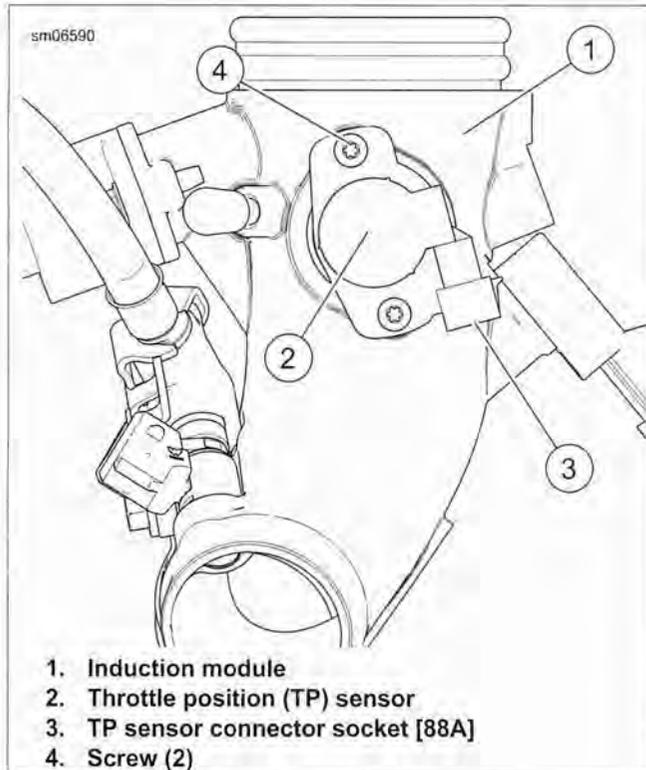

Figure 4-23. Throttle Position (TP) Sensor Removal: XR 1200X
4. See Figure 4-23. Remove induction module from vehicle. See 4.10 INDUCTION MODULE: XR 1200X.
5. Remove two screws (4) and detach TP sensor (2) from induction module (1).
- See Figure 4-23. Note installed orientation of TP sensor (2) relative to induction module (1) body; connector socket is at approximately the 5:00 o'clock position.
2. Rotate the TP sensor counterclockwise into position as shown in Figure 4-23.
3. Make sure TP sensor body is flush against mounting boss on induction module body. Install two screws (4). Tighten to 29 **in-lbs** (3.3 Nm).